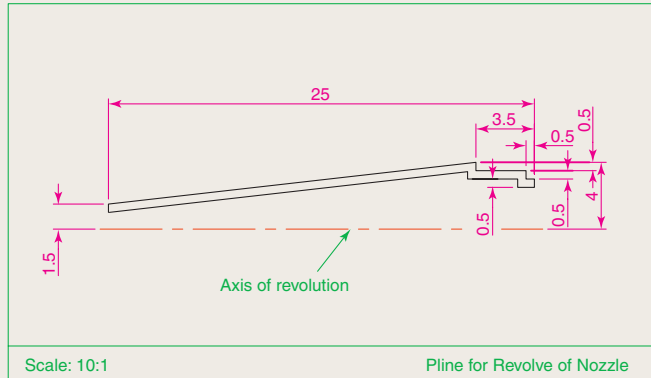

Fig. 12.51 Exercise 5
5. Figure 12.51 shows the outline from which a solid of revolution can be constructed. Use the **Revolve** tool from the **Home/Modeling** panel to construct the solid of revolution.